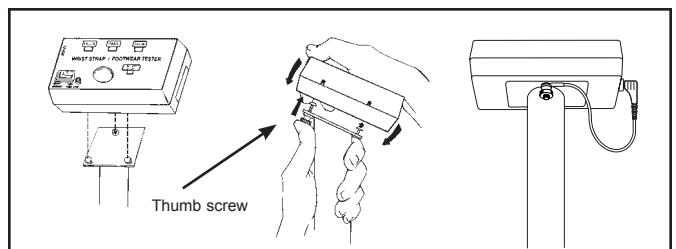

Figure 10. Installing Tester on bracket and securing Tester to bracket
4. Install the Tester on the bracket by aligning keyholes on the back of tester with mounting studs on bracket. While pushing up on thumb screw, insert the mounting studs into the keyholes and slide the tester down. See Figure 10.